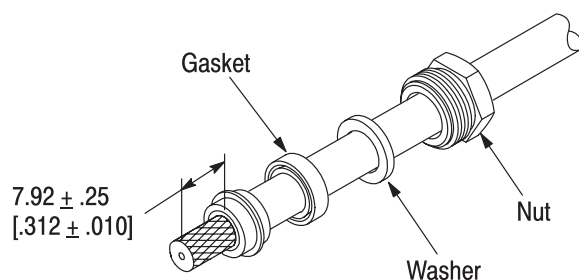

Figure 2
1. Slide nut, washer, and gasket over cable end; then strip outer cable jacket using the recommended strip–length dimensions in Figure 2.